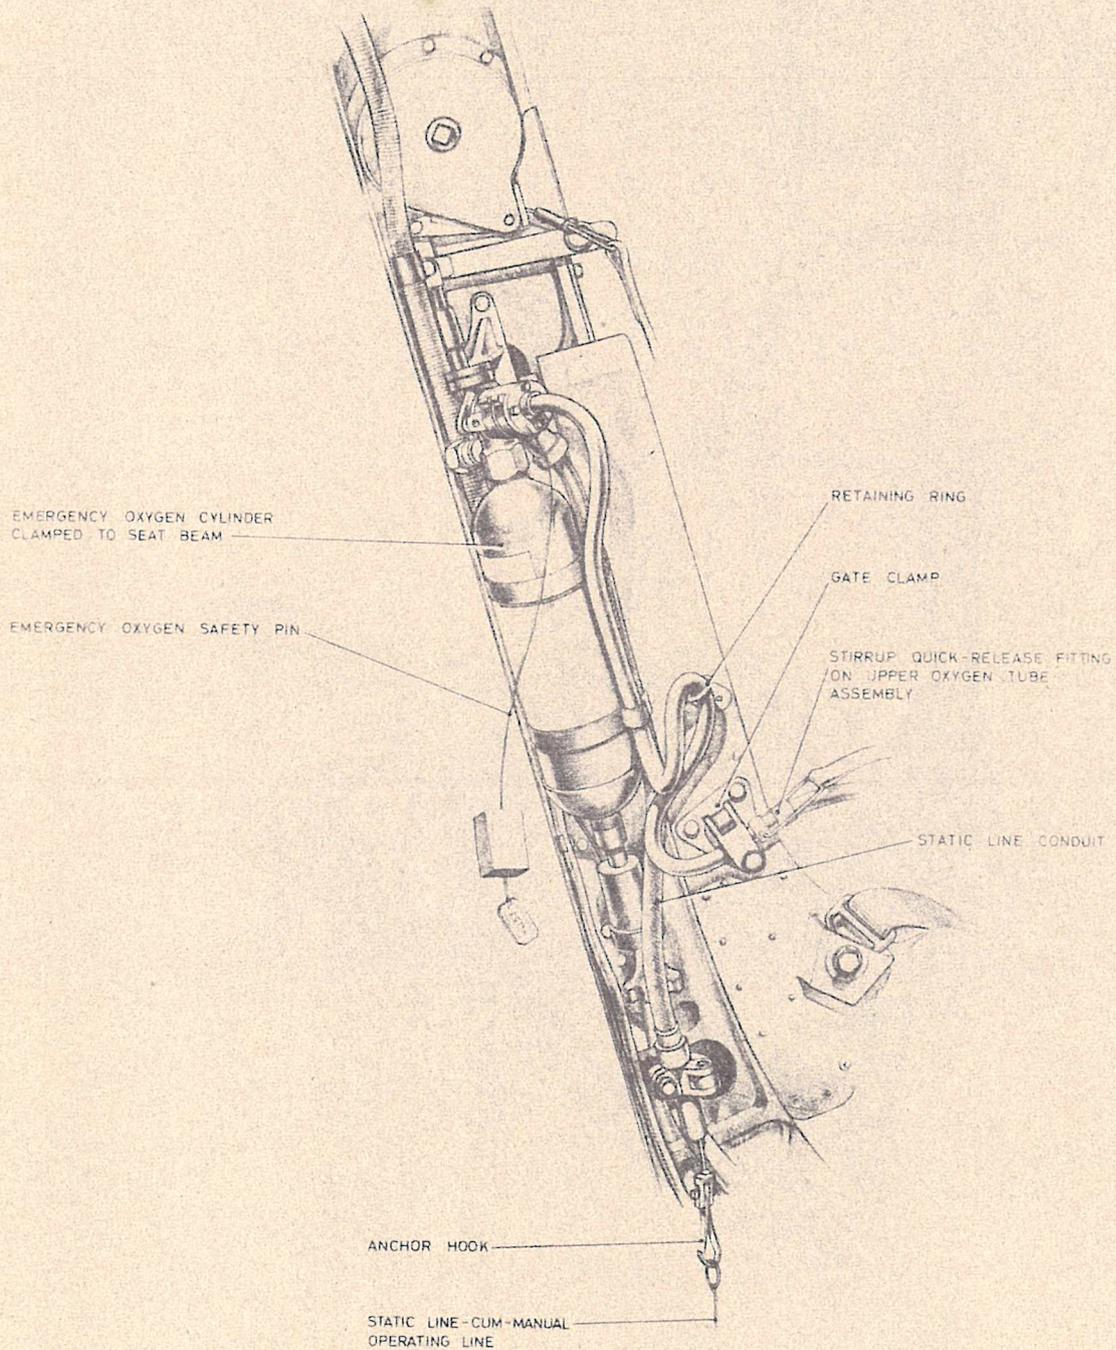

Fig. 1. Arrangement of emergency oxygen supply
22. The following procedure is to be used when equipping the seat: refer to fig. 1 to 3 for detail as necessary:—